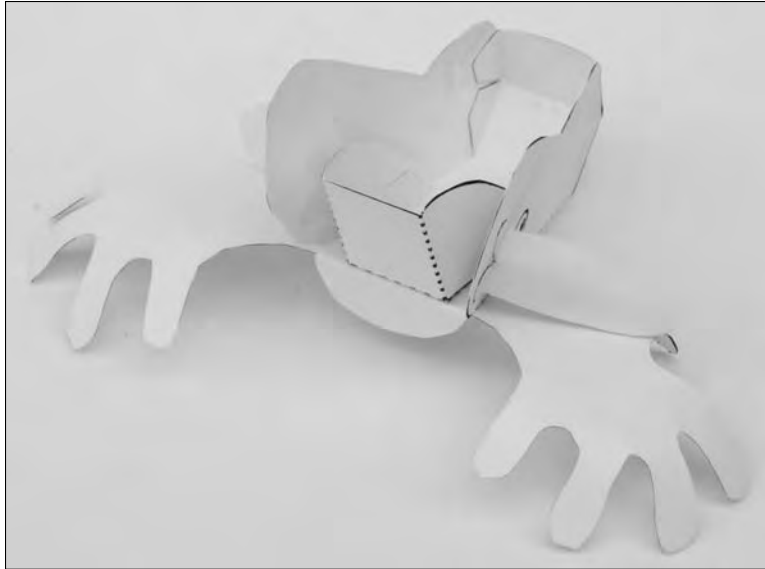

Figure 11-8:
4. **Assemble the bell crank and glue it inside the head (refer to Figure 11-8).**